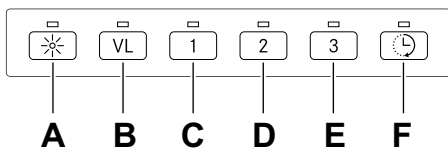

Fig. 9
1. To open programming: press and hold down buttons A and B for 3 seconds so that they both flash 3 times, see Fig. 9. Programming mode will then be active for 30 seconds.
3. To save programming: press and hold down buttons A and B for 3 seconds, see Fig. 9. Buttons A and B will flash twice to show that the programme has been saved.